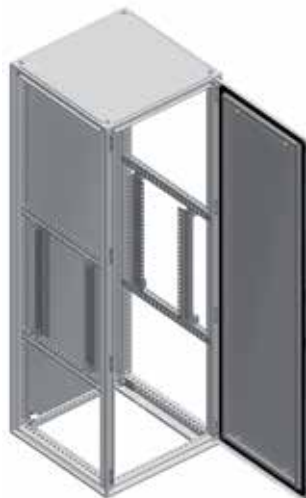

Figure 2
- For installation at any other height, four cross rails installed depthwise are required (figure 2).
- For installation at any other height (figure 2): install four cross rails depthwise.
- Maximum load: 2 kg/U (4.4 lbs/U) (1).